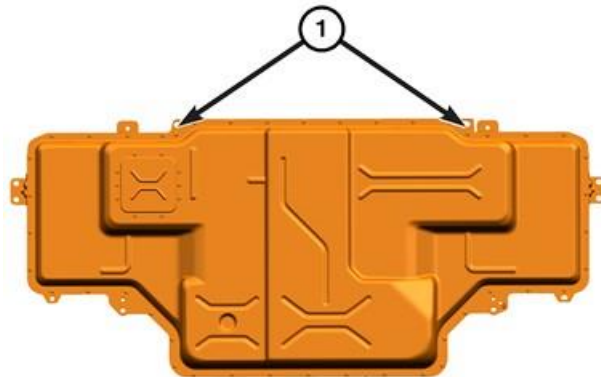

**Figure 38 – Support Mounting Holes**
41. Install two Eyebolt, 10mm 2035203080 with the nuts to the front support mounting holes (1) (Figure 38).